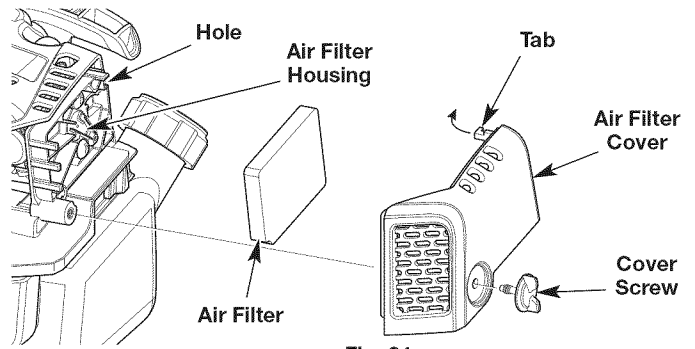

Fig. 24
1. Unscrew the cover screw completely. Swing the air filter cover to the right. Remove the air filter cover from the air filter housing (Fig. 24).
2. Remove the air filter from the air filter housing (Fig. 24).
6. Reinstall the air filter in the air filter housing (Fig. 24).
7. Insert the tab on the air filter cover into the hole on the air filter housing. Swing the air filter cover to the left. Push the air filter cover back onto the air filter housing. Insert the cover screw into the air filter cover. Tighten the cover screw to secure the air filter cover (Fig. 24).